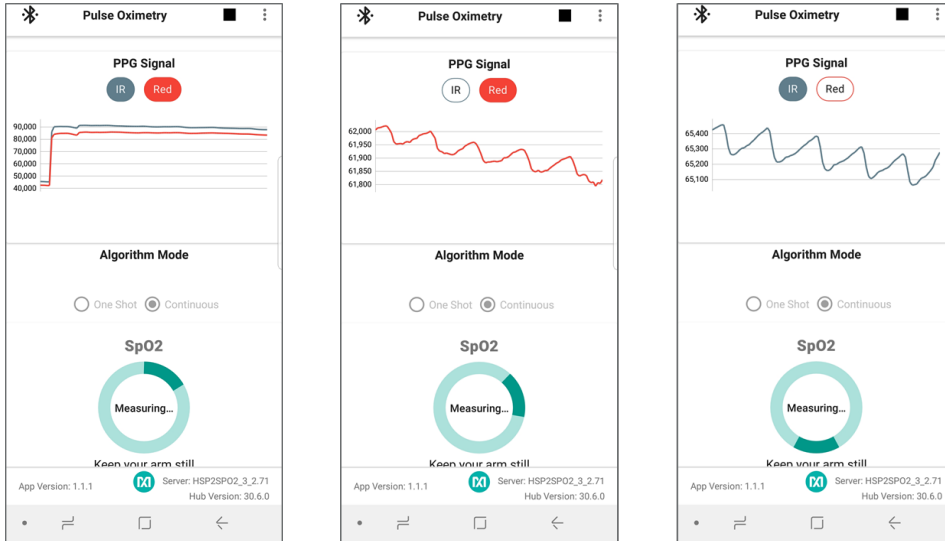

Figure 42. IR and Red signals displayed during SpO₂ measurement.
3. The IR and Red signals are graphed if the **IR** and **Red** buttons have been selected. In order to retrieve a valid SpO₂ reading, the signals should have peaks and valleys as depicted in Figure 42. If the waveform is not correct, then the strap tightness or health sensor enclosure position may need to be adjusted.